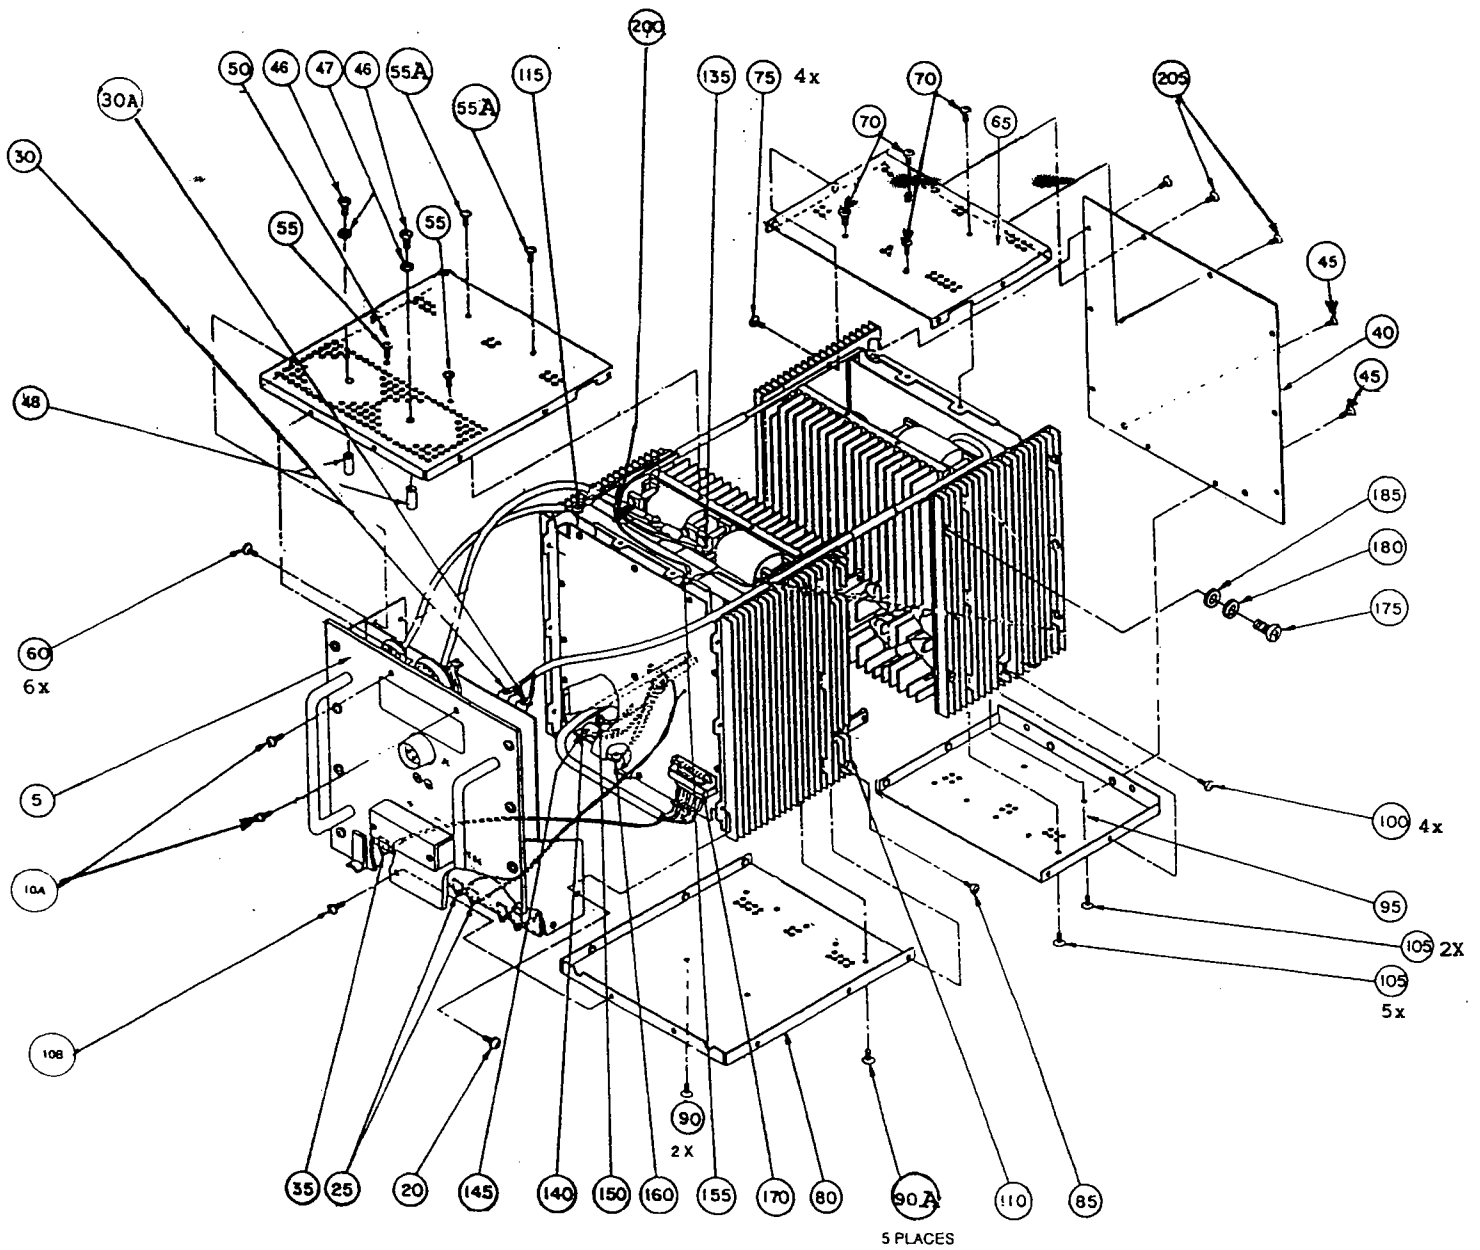

FIGURE 1
7. Remove seven screws, item 105 securing rear bottom cover, item 95, on figure 1
8. Remove six screws from the rear and side panels securing rear bottom cover; four of item 100 and two of item 45 on figure 1.
9. Carefully pry off rear bottom cover, item 95 on figure 1.
10. Remove three screws from wire connections; one item 30, one item 30A and one item 155 on figure 1.
11. Remove two screws from wire connections; item 115 and item 135 on figure 1.
12. Cut cable tie, item 200, securing wires on figure 1.
22. Install cable tie, item 200, securing wires on figure 1.
23. Install two screws from wire connections; item 115 and item 135 on figure 1.
24. Install three screws from wire connections; one item 30, one item 30A and one item 155 on figure 1.
25. Carefully position rear bottom cover, item 95 on figure 1.
26. Install six screws from the rear and side panels securing rear bottom cover; four of item 100 and two of item 45 on figure 1.
27. Install seven screws, item 105, securing rear bottom cover, item 95, on figure 1
28. Carefully position rear top cover, item 65 on figure 1.
29. Install six screws from the rear and side panels securing rear top cover; two of item 205 and four of item 75 on figure 1.
30. Install four screws, item 70, securing rear top cover, item 65, on figure 1.
31. Carefully position front top cover, item 50 on figure 1.
32. Install eight screws from the front and side panels securing front top cover; two of item 10A and six of item 60 on figure 1.
33. Install four screws, items 55 and 55A securing front top cover, item 50, on figure 1.